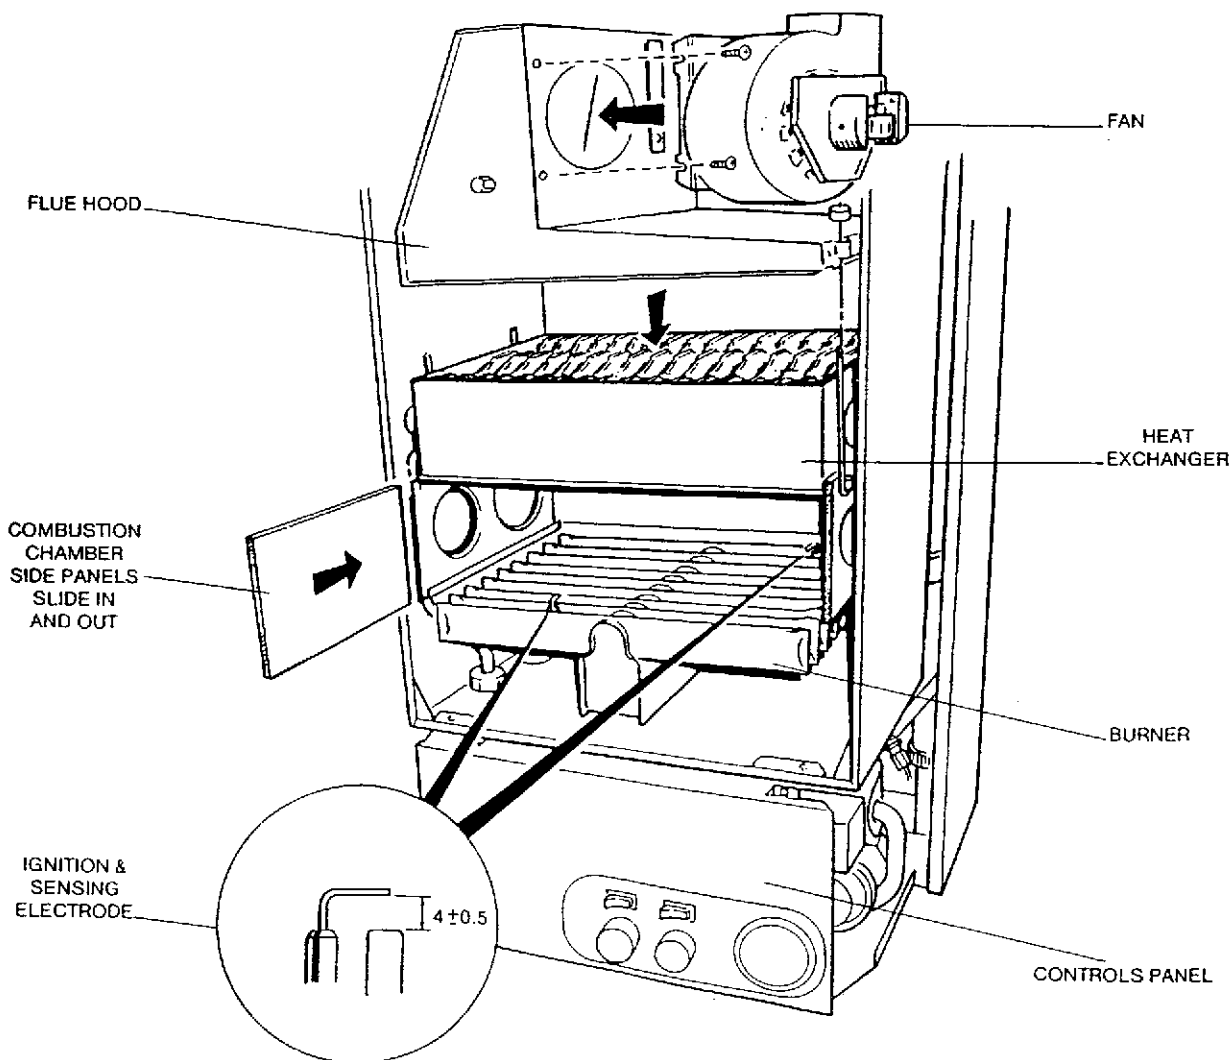

Fig. 21
7. TO INSPECT AND CLEAN THE APPLIANCE (See Fig. 21)
- e. Inspect the main burner and remove any deposits with a soft brush. Check the electrodes for damage or deterioration. Ensure that the spark gaps are correct to dimensions specified in Fig. 21. Clean or renew as necessary. Do not bend the electrodes as the insulating material may crack.
3. SENSOR AND IGNITION ELECTRODE (See Fig. 21)
5. BURNER (See Fig. 21)